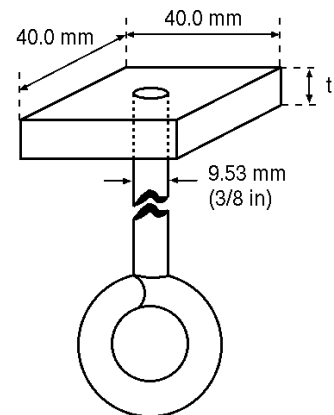

Figure 2. Loading Plate Detail
- The load will be applied by means of a 40. mm square plate (see Figure 2) with a thickness (**t**) of at least 6 mm but less than 13 mm. A 9.53 mm (3/8 inch) diameter eyebolt is attached from below to the center of the plate. The plate will be horizontal and will be mounted with two edges parallel to the longitudinal axis of the bridge.